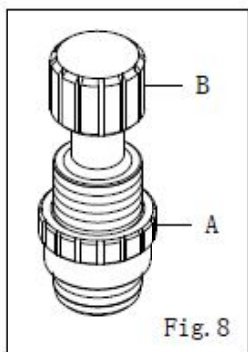

Fig. 8
2. 松开螺母(A)，转动螺丝(B)，调整其适当压力后再锁紧螺母(A)。(图 8)
2. To increase the pressure of Presser Foot, to turn Adjusting Screw (B) clockwise after loosening Lock Nut (A) and to decrease the pressure turn Screw (B) counterclockwise. (Fig. 8)